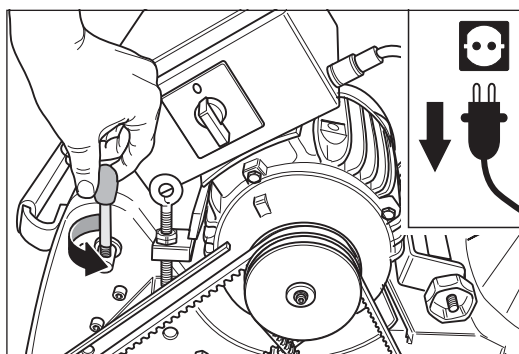

Fig. 69 Unscrew the operating lever of the drive unit.
- 7 Remove the operating lever of the drive unit by unscrewing (fig. 69).